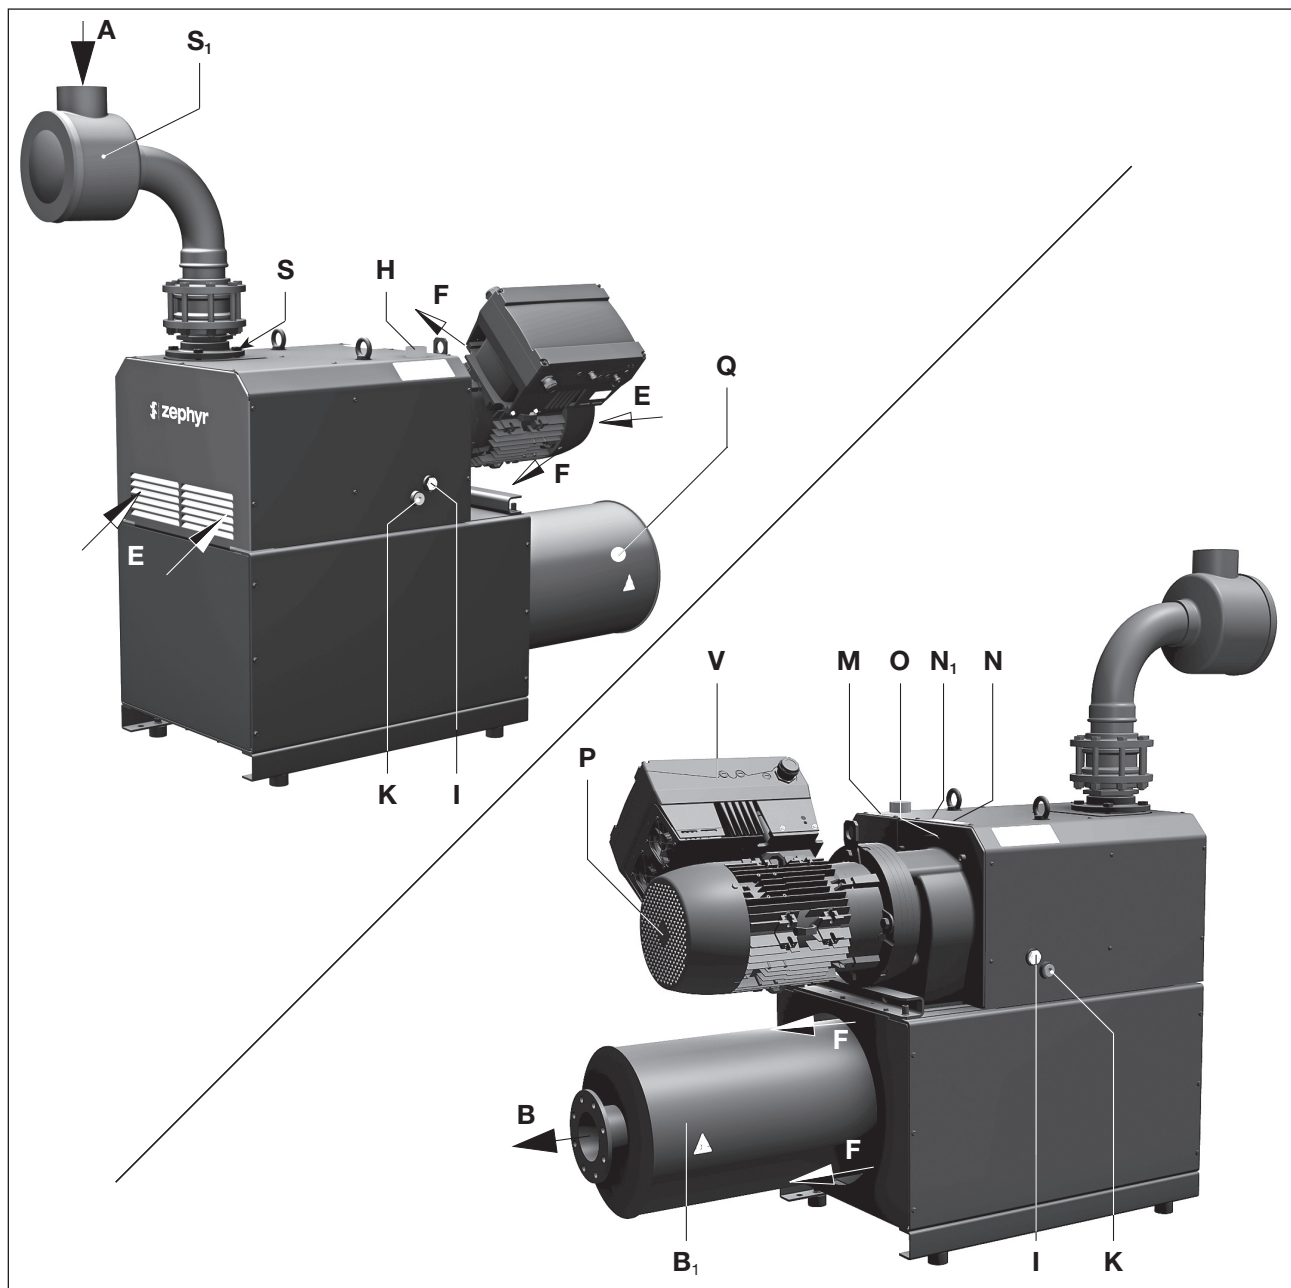
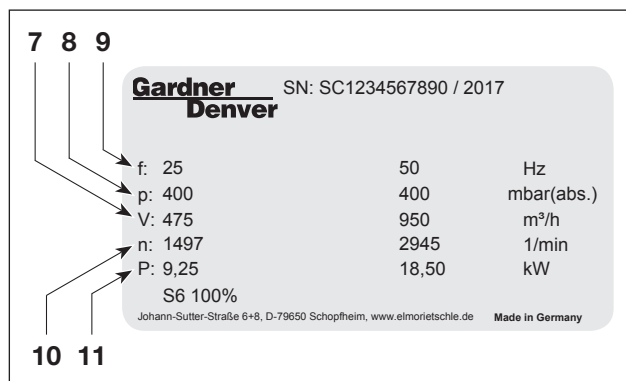

Fig. 2 Vacuum pump C-VLR 1000
Fig. 4 Data plate frequency converter
- the machine must only be operated at speed and frequency range according to the data plate (Fig. 2/N₁)
The C-VLR 1000 model has a connection flange on the inlet side and an exhaust silencer on the pressure side (Fig. 2/B₁). The air sucked in is cleaned by a filter cartridge in the suction filter (Fig. 2/S₁) and a micro-filter (Fig. 2/S).
The gearbox and the compression chamber are separated from each other by special seals. The gearbox is sealed from the outside with shaft seals and O rings, the compressor chamber with piston rings. The VLR 1000 is enclosed in an insulating hood. In order to dissipate compression heat, the cooling air is sucked through between the machine and the hood using a drum fan that sucks in the fresh cooling air (Fig. 2/E) and discharges the heated air out of the cooling air outlet (Fig. 2/F).
The VLR 1000 is driven by standard flanged three-phase motors via a coupling. Three-phase motor with integral frequency converter (Fig. 2/M) makes possible infinitely variable control of the speed.
The oil filling point (Fig. 2/H), oil sight glass (Fig. 2/I) and the oil outlets (Fig. 2/K) must be easily accessible. The cooling air inlets (Fig. 2/E) and the cooling air outlets (Fig. 2/F) must be at least 30 cm away from adjacent walls. Cooling air coming out must not be sucked in again. For maintenance work there must be a minimum of 40 cm in front of the suction filter (Fig. 2/S₁).
- a) Remove the adhesive sheets from the vacuum connection (Fig. 2/A).
- c) The extracted air can be discharged through the exhaust silencer (Fig. 2/B) or conducted away via the flange and a pipe.
- a) Fill the lubricating oil (for suitable types see "Maintenance") for the gear wheels and oil filling point (Fig. 2/H) up to the middle of the sight glasses (Fig. 2/I).
- b) Connect the frequency converter (Fig. 2/V) according to the operating instructions 610.00260.40.000 or with the attached connection diagram. For the observance with the protection class IP 65 shall be provided suitable cable glands resp. shutters. The electric network connection values are to be taken from the type label (Fig. 4) of the frequency converter.
When the machine is at operating temperature the surface temperatures on the components (Fig. 2/Q) may go above 70 °C. You must avoid touching the hot surfaces (marked with warning plates).